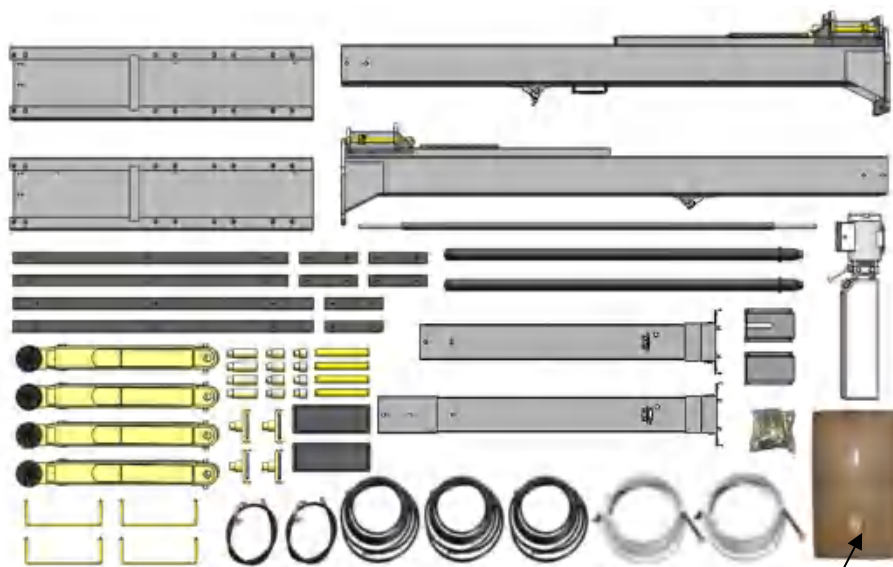

Fig. 15
6. Move aside the parts and check the parts according to the parts list. **(See Fig. 15 & 16)**